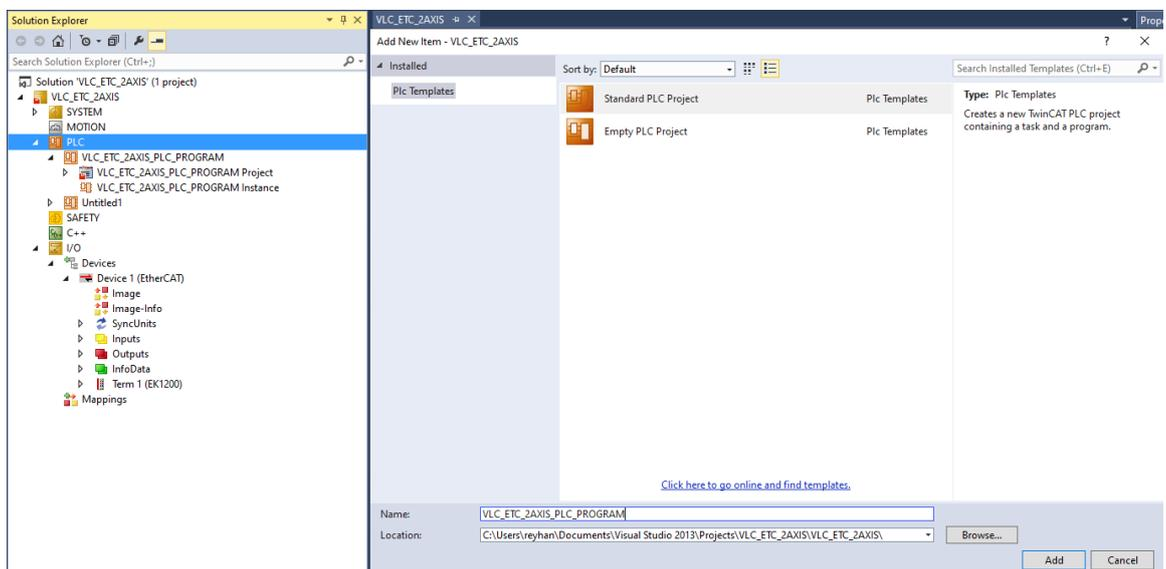

Figure 3.20.
- Right-click on the PLC in the left pane of TwinCAT environment and select ‘Add new item’. Provide a name for a standard PLC project, as illustrated in Figure 3.20.